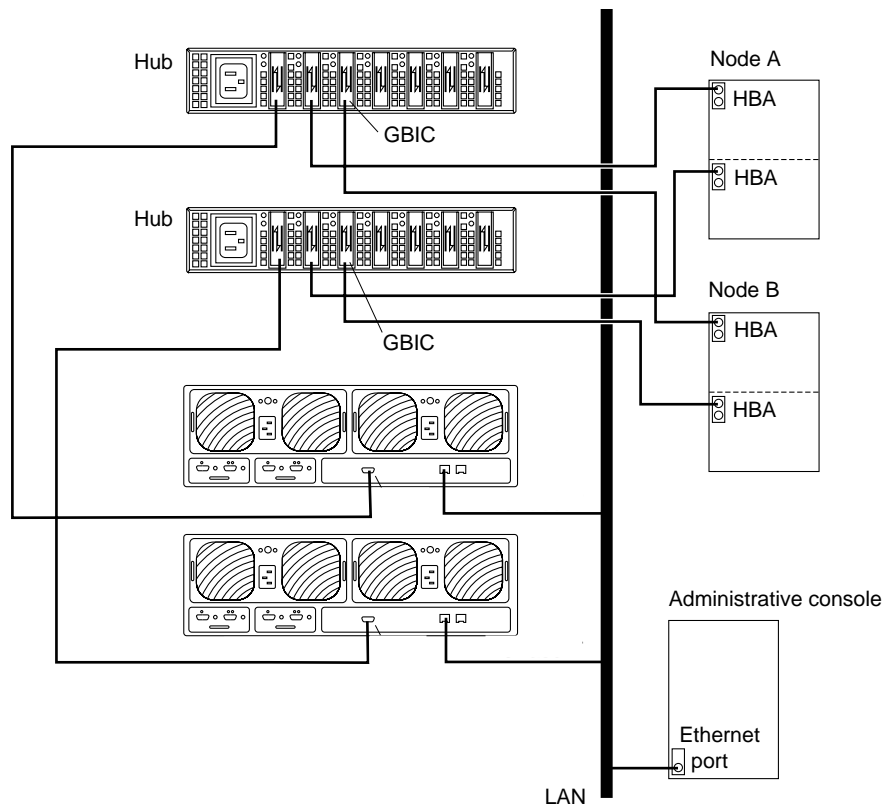

FIGURE C-4 Adding a StorEdge T3/T3+ Disk Tray in a Single-Controller Configuration
36. If necessary, install gigabit interface converters (GBIC) as shown in FIGURE C-4.
37. If necessary, connect a fiber-optic cable between the Sun StorEdge FC-100 hub and Node B as shown in FIGURE C-4.